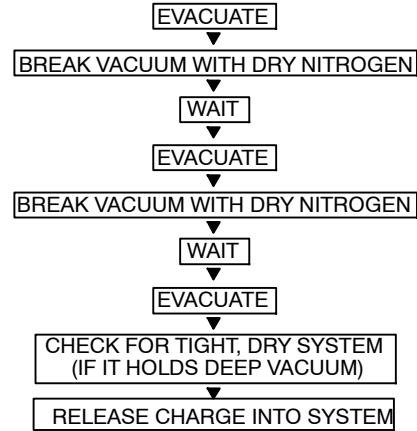

Fig. 83 - Triple Evacuation Method
Refer to Fig. 83 and proceed as follows:
5. Repeat this procedure as indicated in Fig. 83. System will then be free of any contaminants and water vapor.